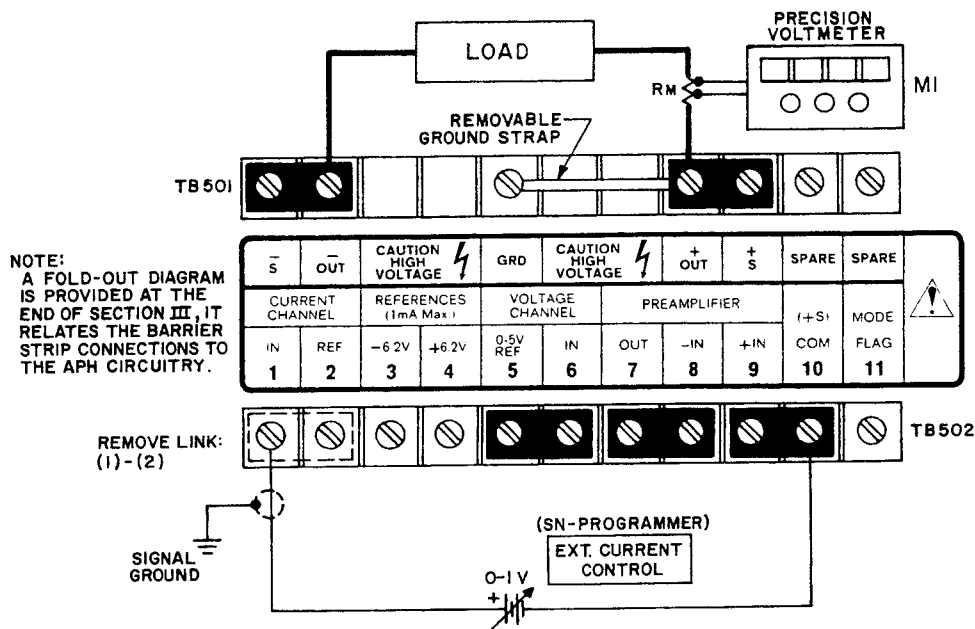

FIG. 3-9 CONNECTIONS FOR APH OUTPUT CURRENT CONTROL WITH AN EXTERNAL VOLTAGE SOURCE.
- 2) Refer to FIG. 3-9. The Kepco SN-2 is used as the EXTERNAL CURRENT CONTROL, producing the control voltage between the "common" and the current amp input. The required compliance (output) voltage can be adjusted by the front panel VOLTAGE CONTROL potentiometer.
- 3) Refer to FIG. 3-9. Connect all external components as shown. Turn the Kepco SN-2 "on" and set to zero. Turn APH "on." Set front panel VOLTAGE CONTROL to the required load compliance voltage. Set front panel CURRENT CONTROL to the maximum output current to be controlled by the EXT. CURRENT CONTROL.
**NOTE:** The output current value can be measured directly by means of a suitable milliammeter in series with the load or, as indicated in FIG. 3-9 indirectly by means of the precision voltmeter across a current measuring resistor ( $R_M$ ).  $R_M$  should be selected such that a convenient range on the precision voltmeter can be used, e.g., for a 10 milliampere output current, use a 100 ohm resistor to produce one volt full scale. If an electronic voltmeter is used, it should be battery-operated to avoid ground loops.